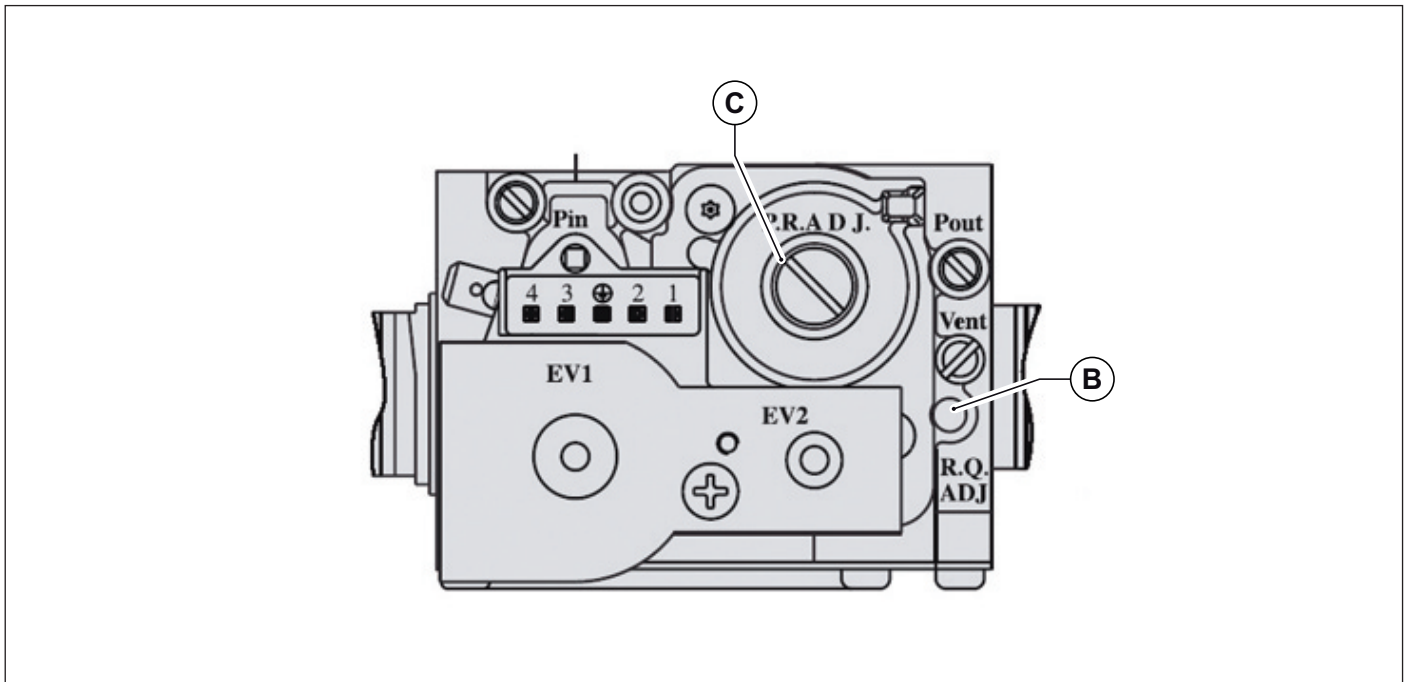

Fig. 38 Adjusting CO2 value
- Set flue gas CO2 content by turning the ratio adjuster **B** (see Fig. 38 Adjusting CO2 value) and ensure that reading falls within the limits of Tab. 25 Flue CO2 content. Let boiler flue cleaning function on and continue with the next point "Minimum heating output adjustment".
- Set flue gas CO2 content by turning the offset control **C** (see Fig. 38 Adjusting CO2 value) and ensure that reading falls within the limits of Tab. 25 Flue CO2 content.